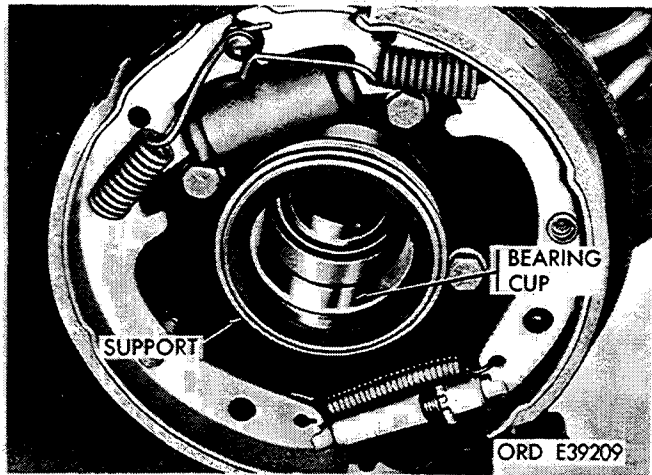

Figure 2-318. Remove bearing cup from support.
(1) Remove spindle (para 2-138) and wheel drive flange (para 2-139).
(2) Pry outer seal and retainer from support. Using brass drift loosen bearing cup and remove from support (fig. 2-318).